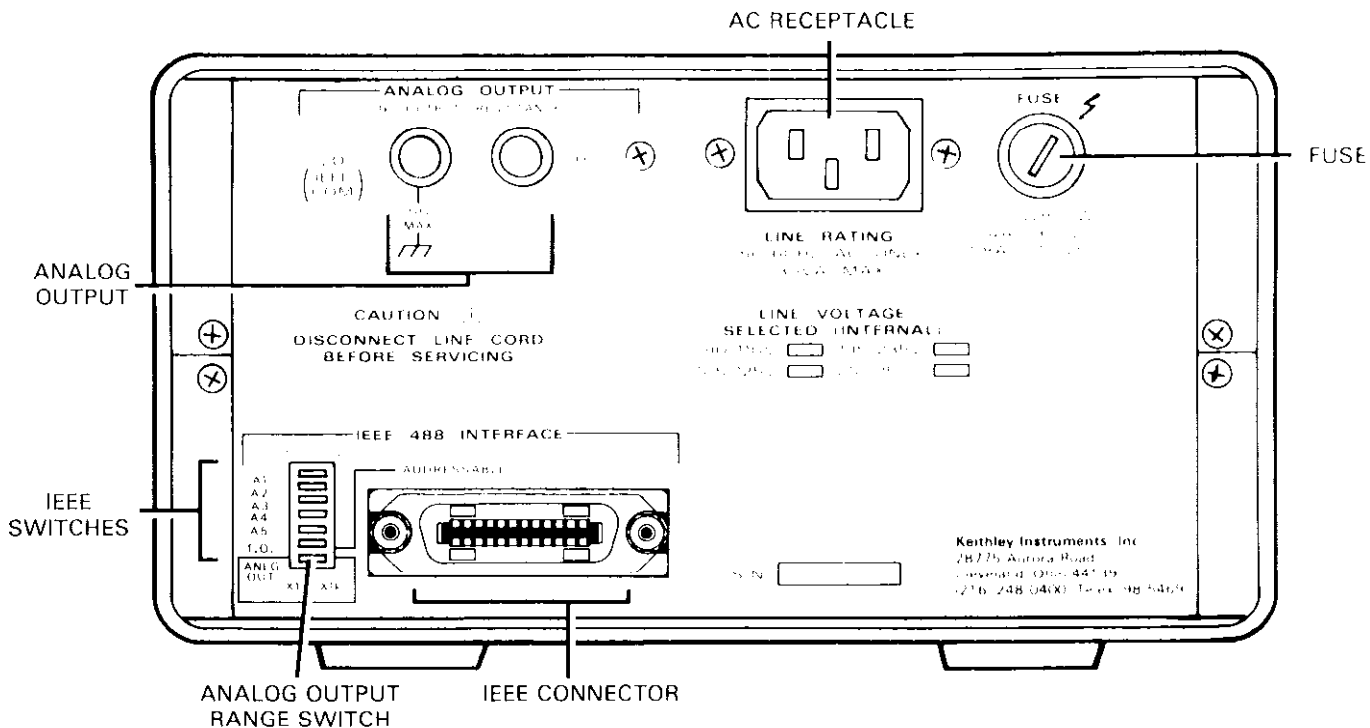

Figure 2-3. Rear Panel Controls and Connections
5. Rear Panel Controls and Connections. The rear panel controls and connections are shown in Figure 2-3. An analog output is available through the two 5-way binding posts. The switches and connector shown in the lower left corner are for use with the IEEE-488 bus. The functions and operation of these connectors and switches will be covered in more detail in later paragraphs.
2. Select the X1 or X1000 range by using the analog output gain switch on the rear panel. This switch is combined with those used to set the IEEE mode in the lower left corner of the rear panel and is clearly marked. (See Figure 2-3.) In the X1 position, the most significant  $\pm 2000$  counts of the display reading can be covered, while the X1000 position will change the range to cover the least significant  $\pm 2000$  counts. In this manner, the entire  $6\frac{1}{2}$  digits of the display may be represented.